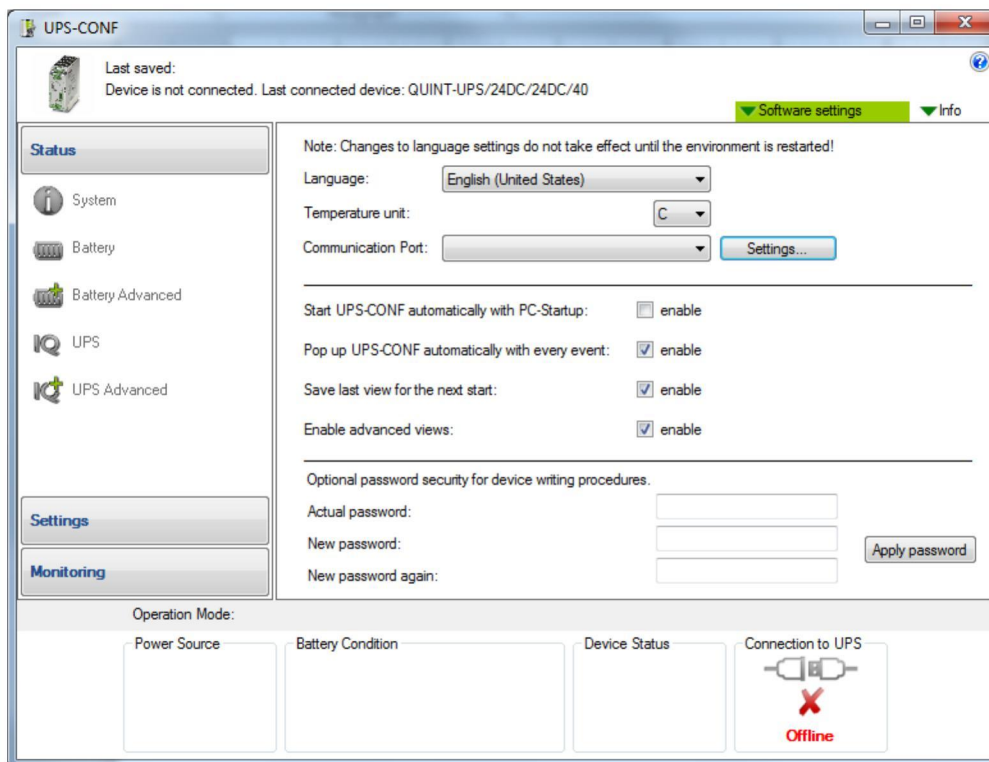

Figure 2 UPS-CONF software settings
1. Launch the UPS-CONF software (version 2.2 or higher is required) and locate the “Software Settings” option at the top right corner (see Figure 2)